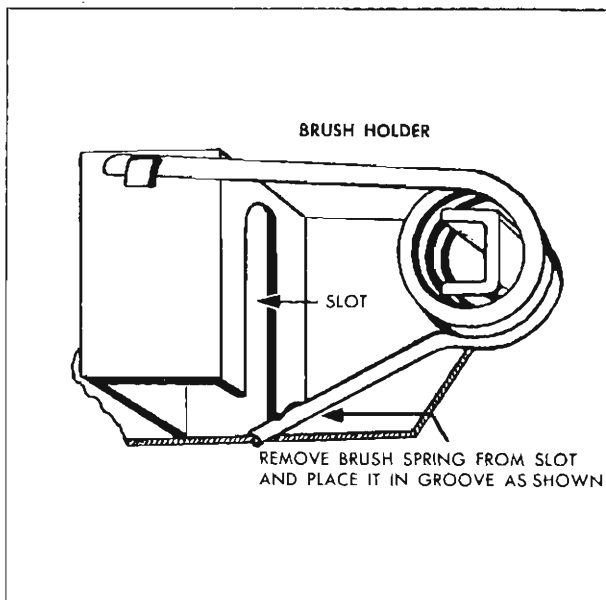

Fig. 60—Releasing Brush Spring Tension
3. Release brush spring tension (fig. 60), slide armature and end plate from motor frame. Pull end plate from armature.